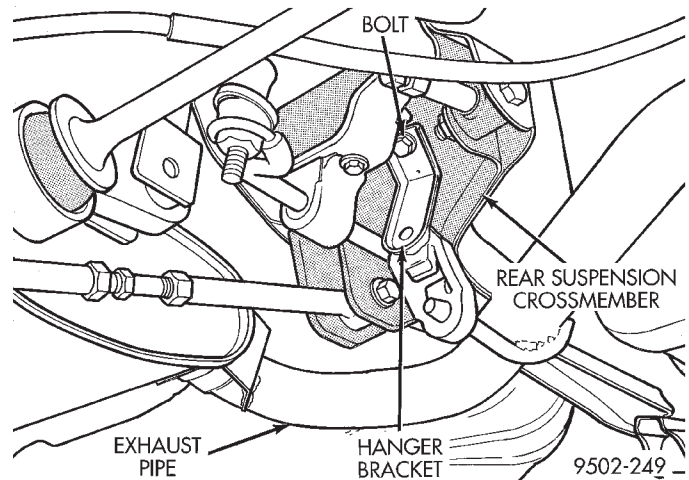
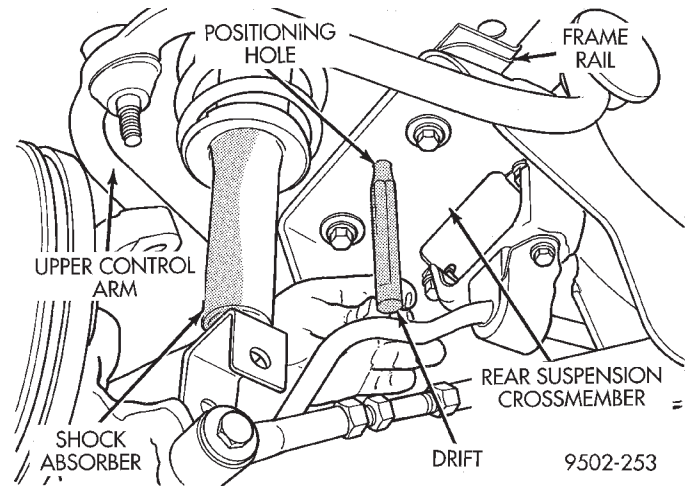

Fig. 4 Exhaust Pipe Hanger At Rear Suspension Crossmember
Fig. 9 Locating Rear Suspension Crossmember In Vehicle
(5) Remove the rear exhaust pipe hanger from the rear suspension crossmember (Fig. 4). Let exhaust system drop down as far as possible.
(5) Position a drift of the appropriate size into the positioning hole in each side of rear suspension crossmember and locating holes in the frame rail of the body. (Fig. 9). This is required to properly position rear suspension crossmember side-to-side and front-to-rear in the body of the vehicle. Then tighten the 4 crossmember to frame rail attaching bolts to 95 N·m (70 ft. lbs.). Remove drifts from rear suspension crossmember.
(6) Align lateral links with knuckles and install the lateral arm to knuckle attaching bolts. Tighten the 4 lateral arm to spindle attaching bolts to a torque of 95 N·m (70 ft. lbs.).
(7) Remove transmission jack supporting rear suspension crossmember.
(8) Install muffler support bracket on rear frame rail (Fig. 3). Install rear exhaust pipe hanger on rear suspension crossmember (Fig. 4).